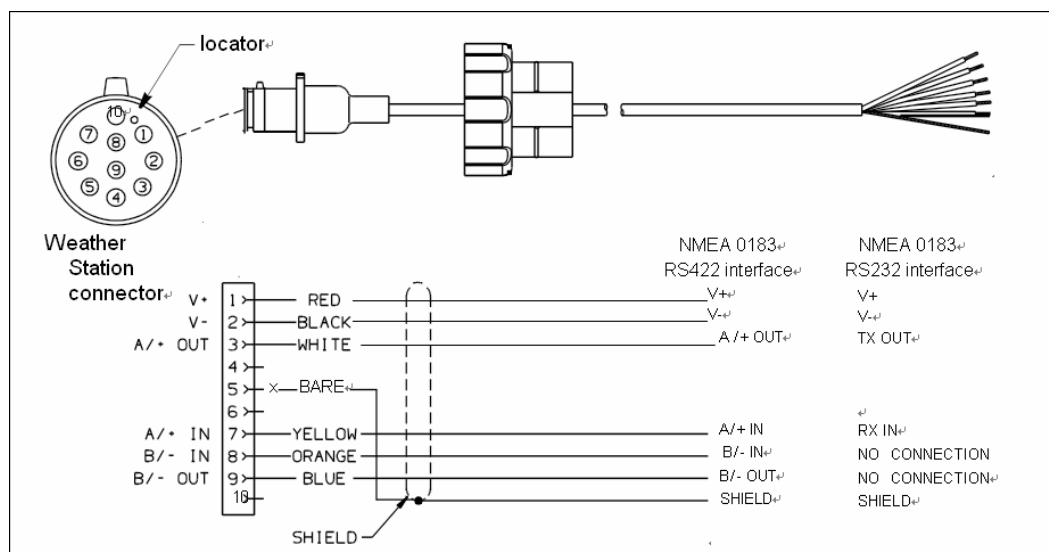

Figure 6. NMEA 0183 Weather Station Cable—no heater
If your Weather Station cable does not have a connector on the display end, it must be hard wired. Referring to the owner's manual that came with your display, connect the colored wires as shown in either Figure 6 or 7.
如果你的气象站电缆不能直接连到显示器，就必须进行电线驳接。参考你的显示器的手册，根据附图6或7的指示来连接彩色电线。
2. Strip 60mm (2-1/2") of the outer jacket and foil shielding from the cut end of the cable (see Figure 6 or 7).
将电缆末端剥掉60mm (2-1/2")的外皮和金属箔屏蔽层(见附图6或7)。
附图6. NMEA 0183气象站电缆—无加热